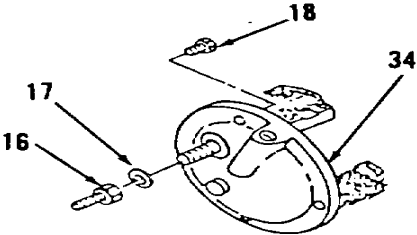

Figure 4-40.
- 30. Install screws (18, Figure 4-40).
- 31. Install lockwasher (17) and nut and stud (16) on stud of plate (34).